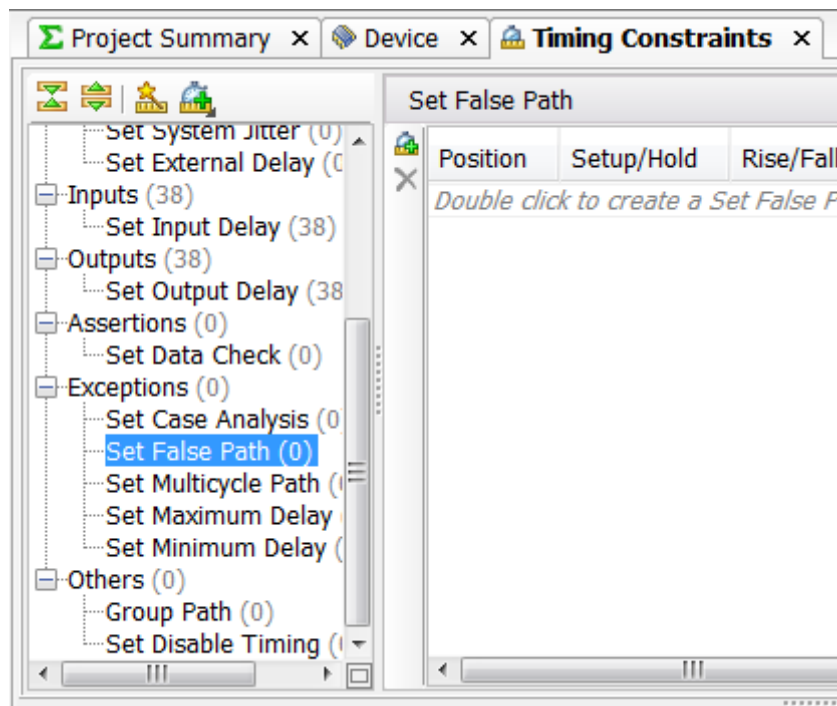

Figure 16: Set False Path Section in the Constraints Editor
5. Double-click **Set False Path** under the Exceptions category of the tree as shown in Figure 16.